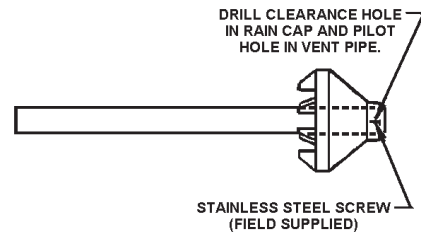

FIGURE 23.
- b) Cement rain cap to smaller diameter kit pipe, see Figure 23.
NOTE: Instead of cementing the smaller pipe to the rain cap, a field-supplied stainless steel screw may be used to secure the 2 components together when field disassembly is desired for cleaning, see Figure 23.
- Cement the rain cap to the smaller diameter kit pipe, see Figure 23.